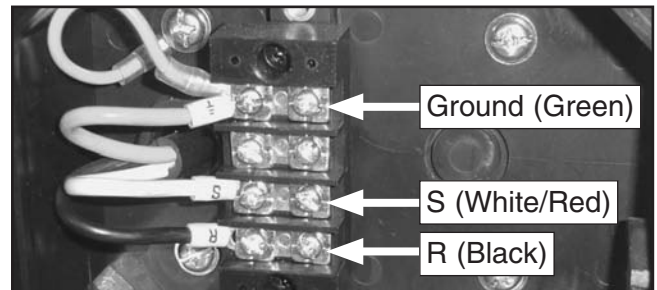

Figure 32. Location to connect incoming power supply wires inside junction box.
3. Attach the hot wires to the terminals across from the wires marked "S" and "R" (see **Figure 32**), and attach the ground wire to the terminal across from the green wire tagged with the ground symbol. Make sure the terminal screws are firmly tightened so the wires will not pull out.